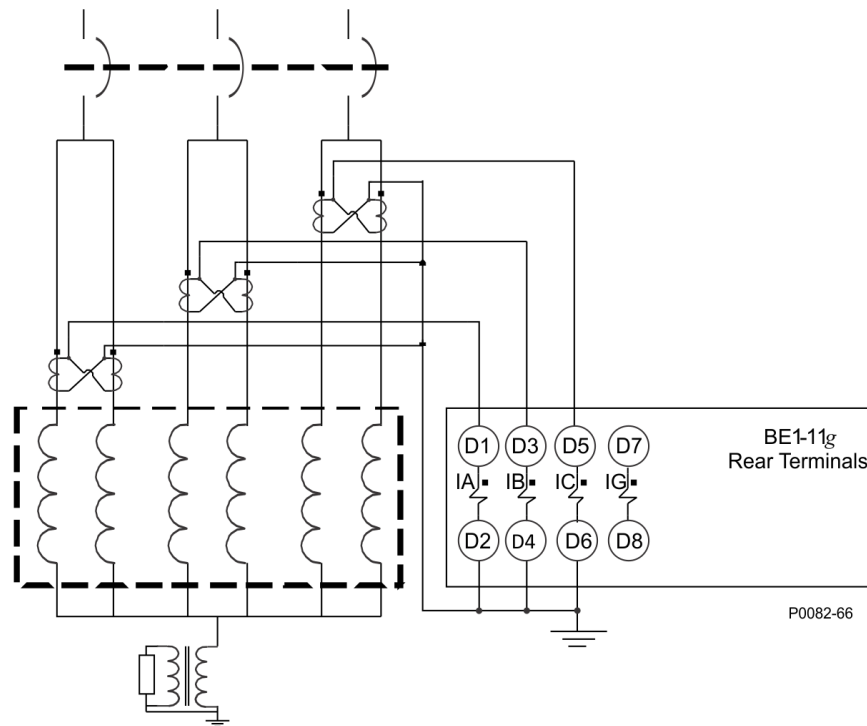

Figure 22-2. Split-Phase Connections
In a split-phase configuration, each phase of generator windings is split into parallel sets of windings. This design characteristic is used to detect turn-to-turn shorts. When a turn-to-turn short occurs, current circulates in the generator winding because of the voltage imbalance that occurs as a result of the shorted turn. This fault can be detected by several different CT configurations. Regardless of the chosen CT configuration, an Inverse Time Overcurrent (51) element combined with an Instantaneous Overcurrent (50) element for each set of windings provides adequate protection for turn-to-turn shorts. The CT configuration and wiring to the BE1-11g is shown in Figure 22-2.